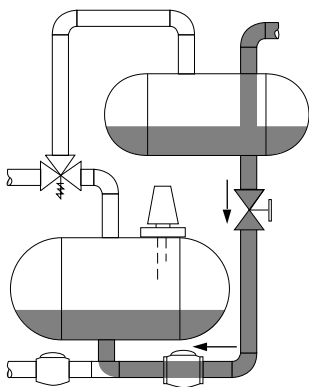

FIGURE 23. Blow Case Pump
- This is a special configuration of a positive displacement pump (Figure 23). It consists of two pressure chambers that are alternately filled with liquid. When a chamber is filled, air or steam is forced into the chamber. This causes the contents to be discharged into the system. The two chambers alternate in this action, resulting in a fairly constant discharge.